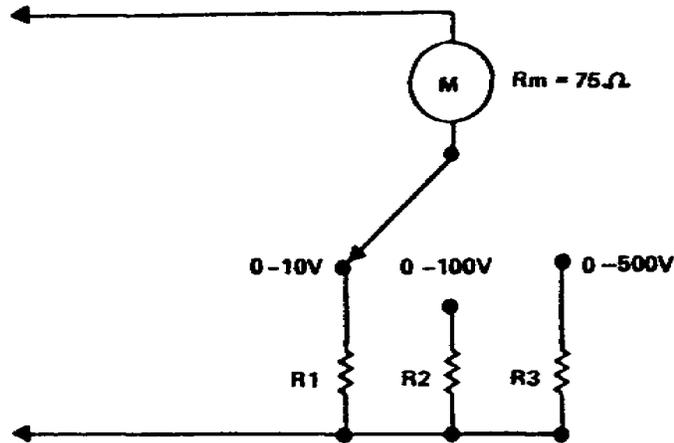

Figure 1-15. Determining multipliers
a. For this discussion, we can use the same meter as used for the ammeter. The meter sensitivity is 1 milliampere and coil resistance is 75 ohms. Assume we need to determine the correct multipliers for ranges of 0 to 10 volts, 0 to 100 volts, and 0 to 500 volts (fig 1-15). Since 1 milliampere causes a full-scale deflection, the total resistance of the meter ( $R_1+75$ ) must be such that the voltage across it is 10 volts (0-to 10-volt range) when 1 milliampere current is flowing. Thus: